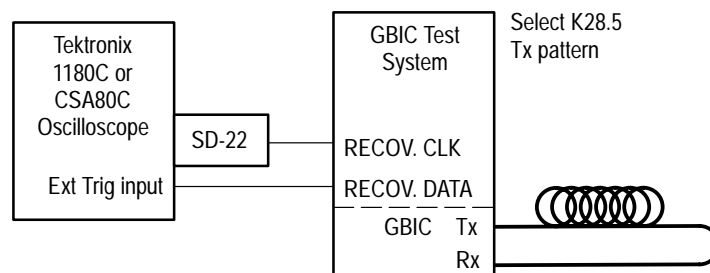

Figure 30: Recovered Clock to Recovered Data Random Jitter Test
3. Connect an SMA cable between the RECOV. DATA output of the GBIC Test System and the oscilloscope Ext trigger input as shown in Figure 30.
4. Connect an SMA cable between the RECOV. CLK output of the GBIC Test System and the SD-22 input of the oscilloscope as shown in Figure 30.